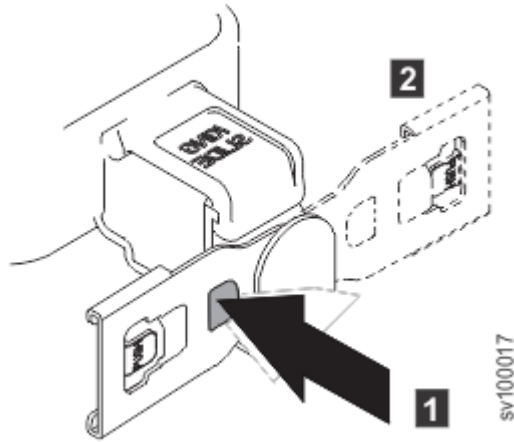

Figure 27. Reversing the orientation of the assembly
- a) Press the button marked "PUSH" in Figure 27 on page 25.